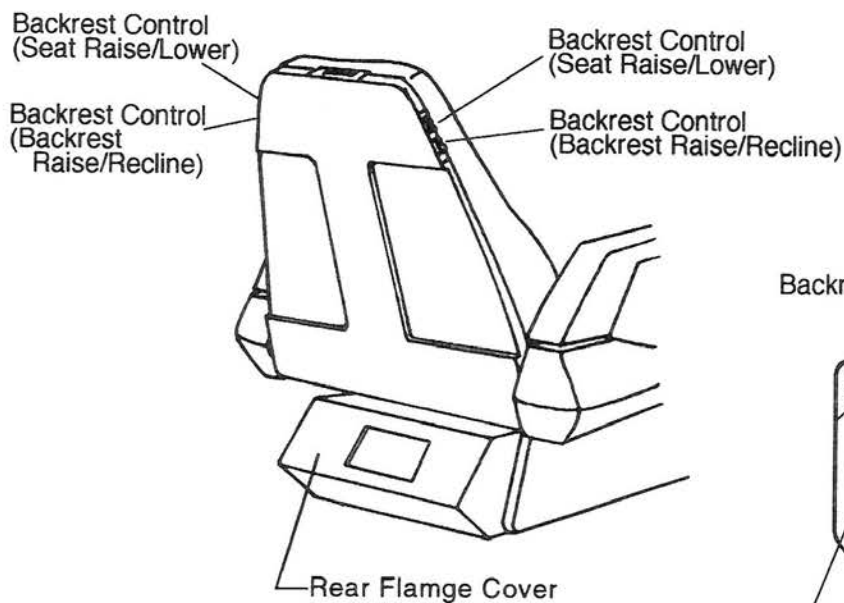
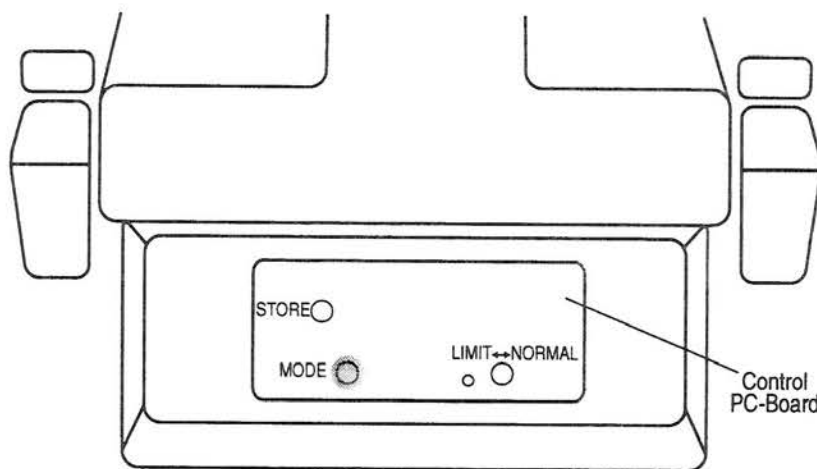

Figure 2
Figure 4
- B. Adjustment - Follow these steps in sequence shown to obtain proper adjustment. Remove Rear Flange Cover(Figure 2) for access to control PCB. (See Figure 4) Set the Slide Switch on Control PCB to LIMIT.